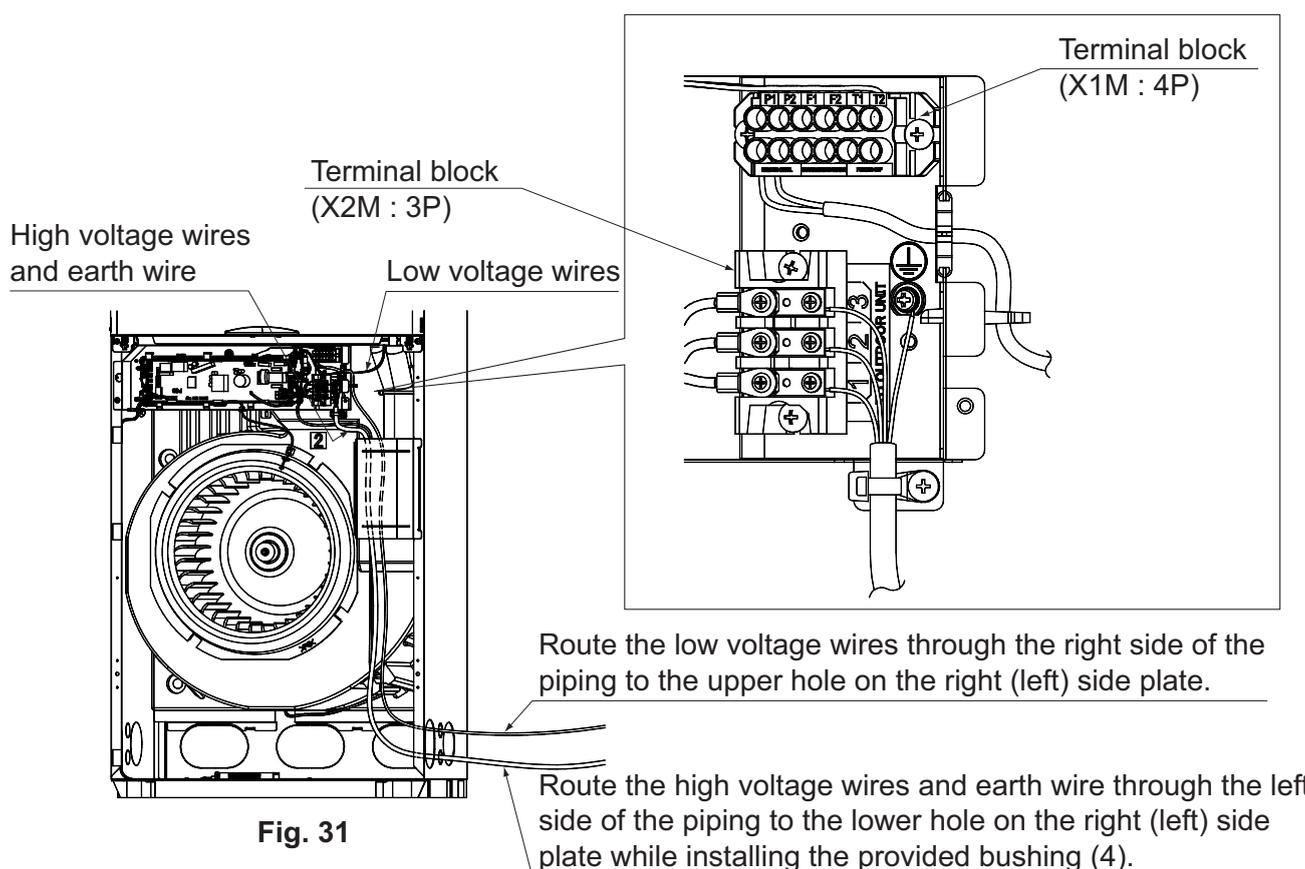

Fig. 31
- Connect the remote controller wiring (field supply) to the terminals P1 and P2 (no polarity) of the terminal block (X1M: 4P), and guide the wiring to the outside of the unit using the route shown in the **Fig. 31**.
- Route the low voltage wires (remote controller wiring) 50mm or more away from the high voltage wires (interconnecting wires between the indoor and outdoor units) and earth wire so that they may not pass through the same place. (**Refer to Fig. 31**)